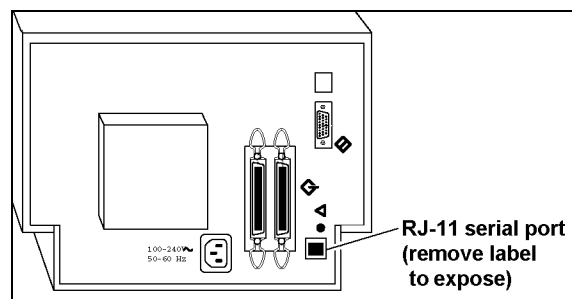

Figure 4-2. ProPalette serial connector
3. Connect the PC serial port to the ProPalette serial connector (Figure 4-2).